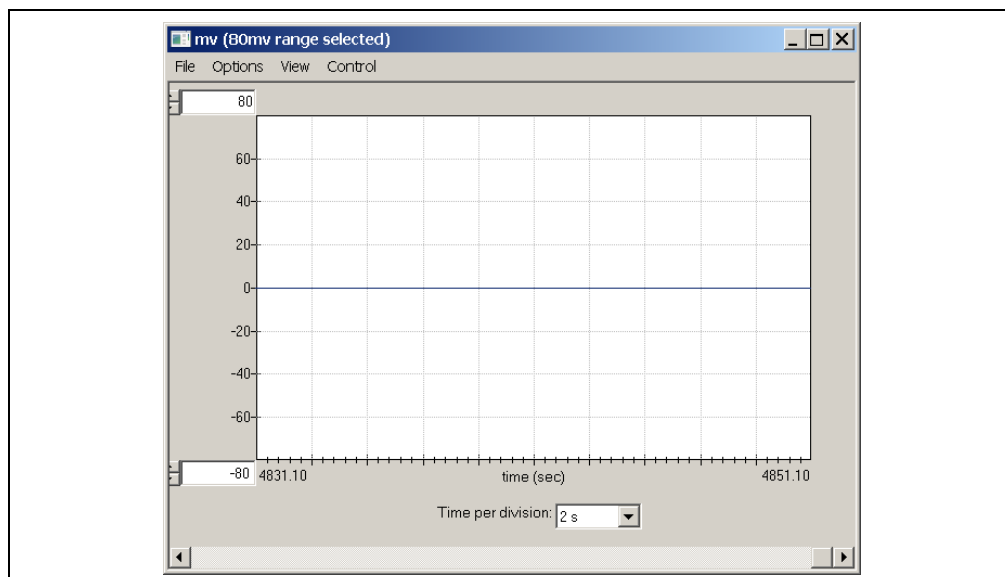

FIGURE 5-2: All Current Sources Off Plot.
3. Go to the Control menu and start the plot. Figure 5-2 shows a plot of current with all switches off.